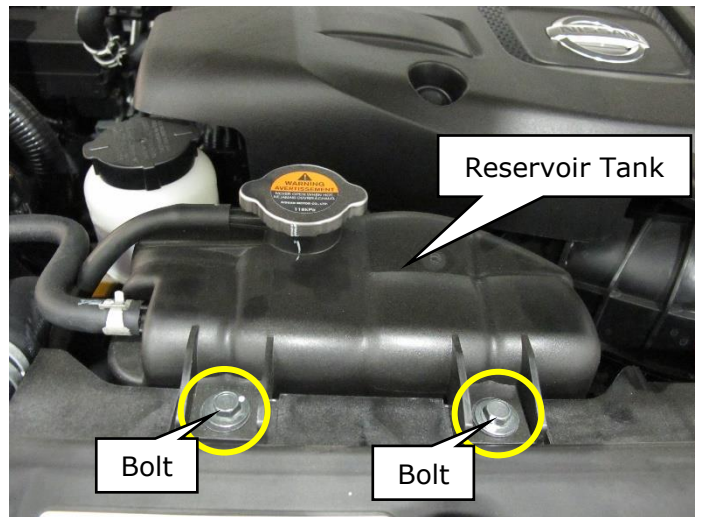

Figure 15
13. Reinstall the reservoir tank (Figure 15).